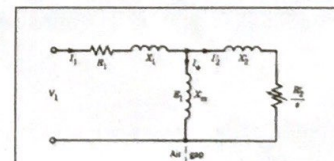

Fig. 2: Equivalent circuit of an induction machine.
3. Explain by answering the questions bellow the tests needed to determine the parameters of the equivalent circuit of an induction machine (Fig. 2).